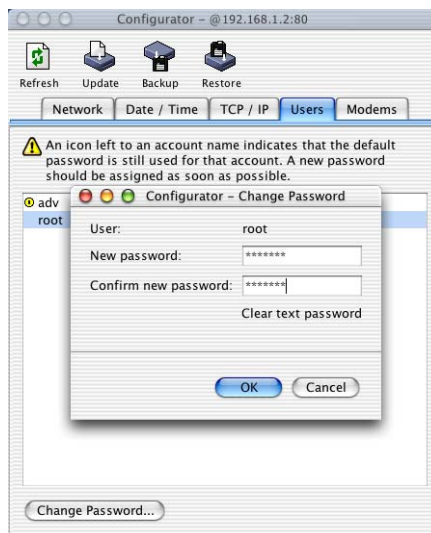

Figure 8. Changing Passwords
2. The configurator lists the two accounts *adv* and *root*. To change either of them, select the account and click **Change Password** (you can also double-click the account you want to change). The pop-up window shown in Figure 8 will be displayed.